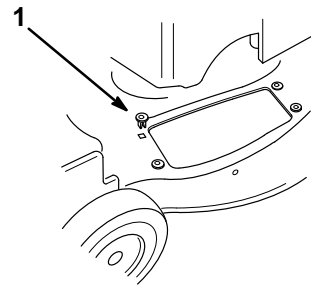

**Figure 35**
2. Remove the knob and side cover clamp (Fig. 35).
2. Remove the knob and side cover clamp, then replace the knob in the hole and save the clamp for future use (Fig. 35).
3. Lift up on the side opening cover (Fig. 35).